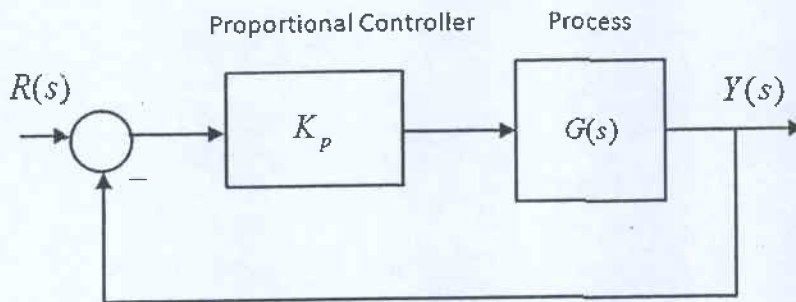

Figure Q1.1
Consider a unit feedback control system in Figure Q1.1, where the process $G(s)$ is described by the following transfer function:
1. The practical range of safe operating gains for the Proportional Controller in Figure Q1.1;